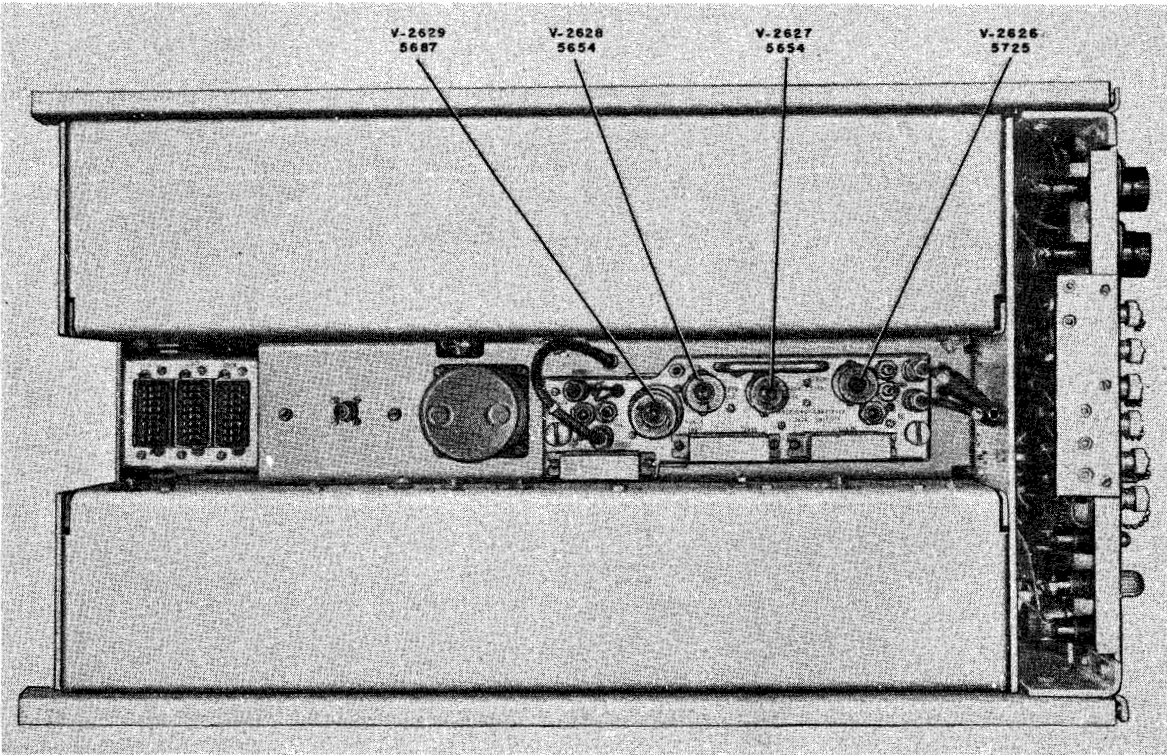

Figure 5-12. Radio Frequency Oscillator O-275/SRT (RFO), Bottom View, Tube Locations
17.	Electron Frequency Converter Z-2626 (RFO—Unit 11A). (See figure 5-12.)